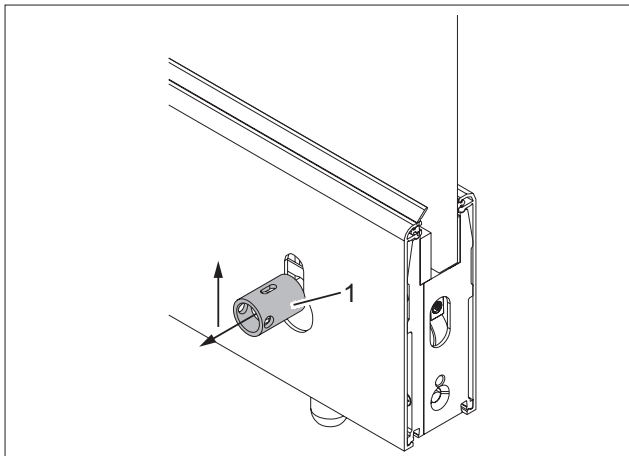

Fig. 34 Removing the sleeve
5. Pull out the sleeve (Fig. 34/1) and push upwards up to the stop. Afterwards, loosen the sleeve again.